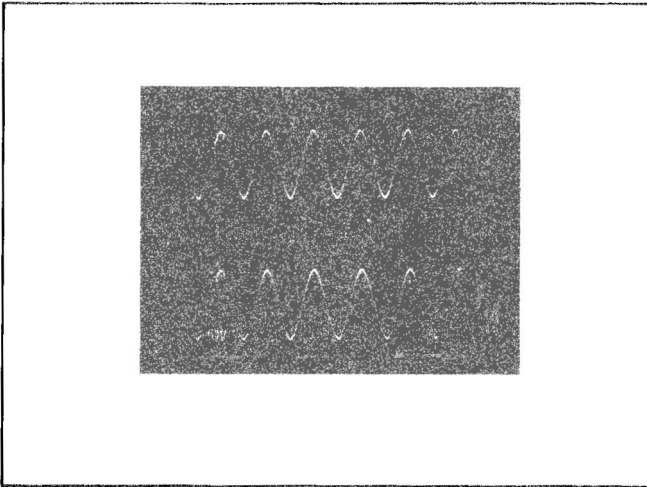

Fig. 4-5. Typical waveforms on C1216 and C1217 with the line voltage set to approximately 20 volts.
5. Check for an ac waveform on the test oscilloscope (see Fig. 4-5). Note the amount of dc the waveform is offset. Move the probe tip to the other capacitor screw. Check for an ac waveform which is both offset an equal amount of dc, and is opposite in polarity, from the previous waveform. (This checks the condition of the line storage capacitors.)